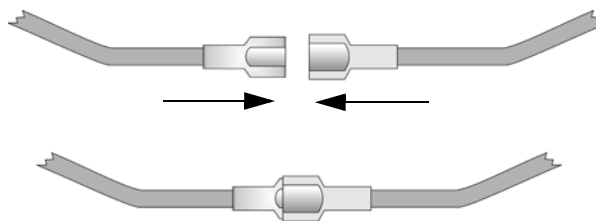

Figure 4.5 Splicing Control panel Battery Cable to RBB Battery Cable Extenders
2. Connect the main control panel battery cables to the battery cable extenders as shown in Figure 4.5.